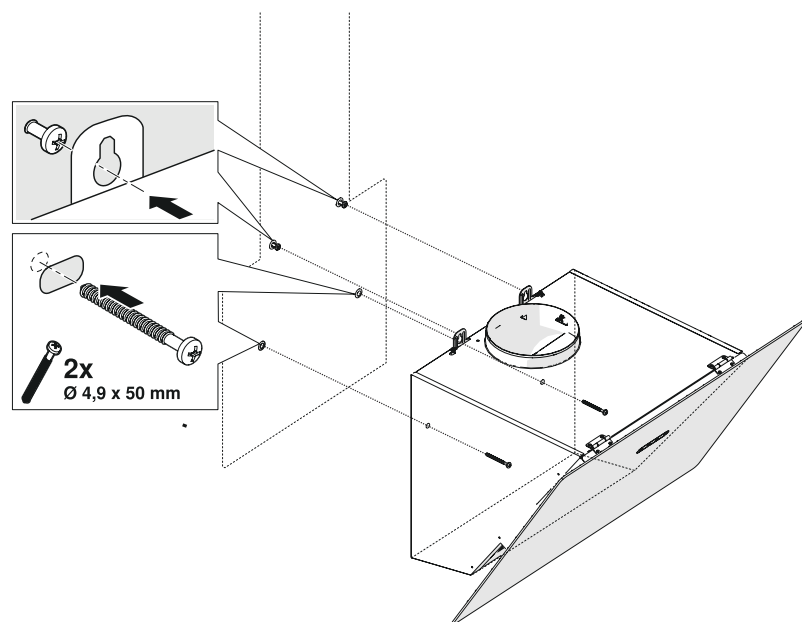

Fig. 12
1. ➤ Hold the appliance by its body and place it on the suspension screws on the wall and tighten the screws (Fig. 12).
2. ➤ Fix the appliance with 4.9x50 screws through the mounting hole on the interior of the appliance (Fig. 12).